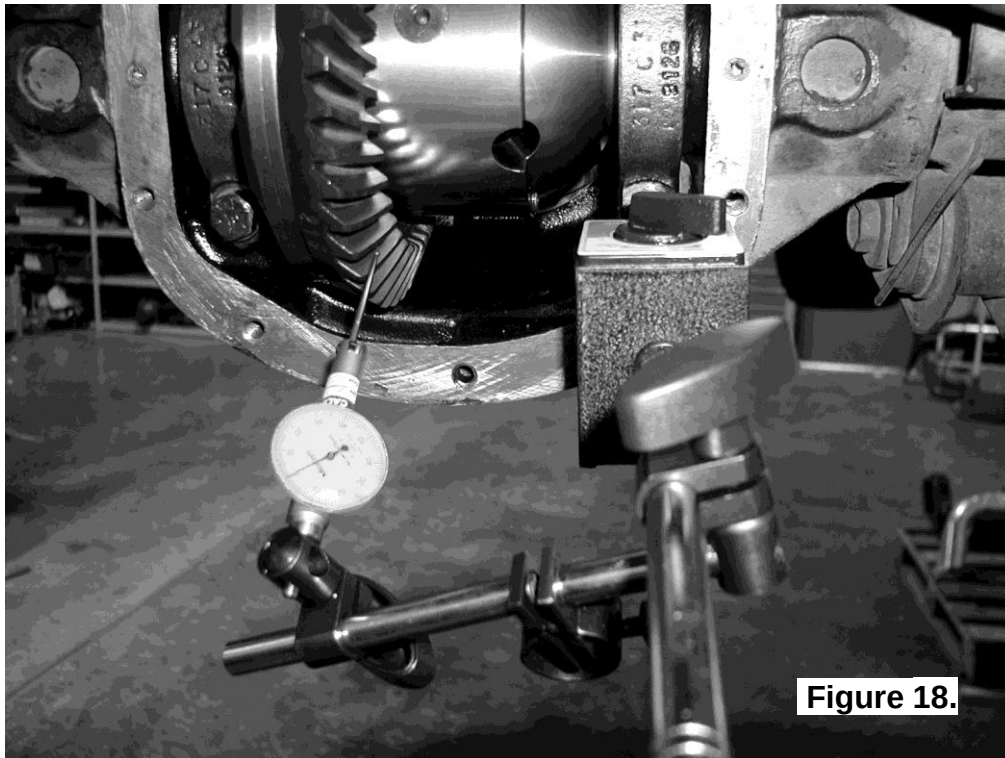

Figure 18.
- ☐ Set a depth indicator on one of the ring gear teeth as in Figure 18.